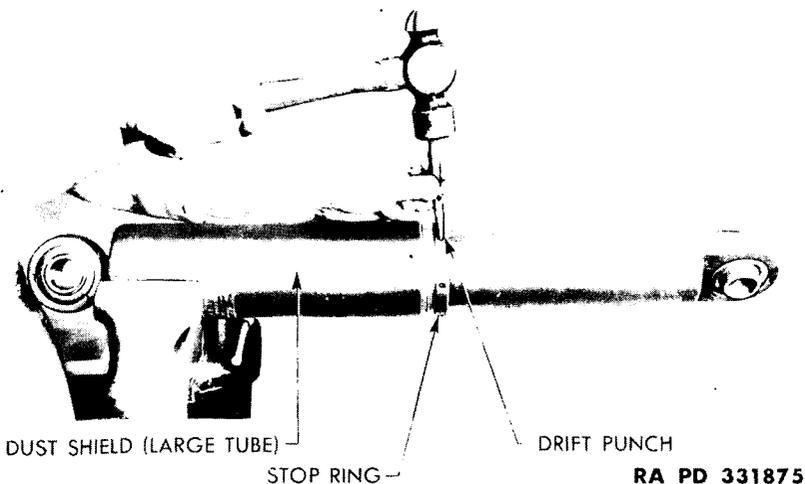
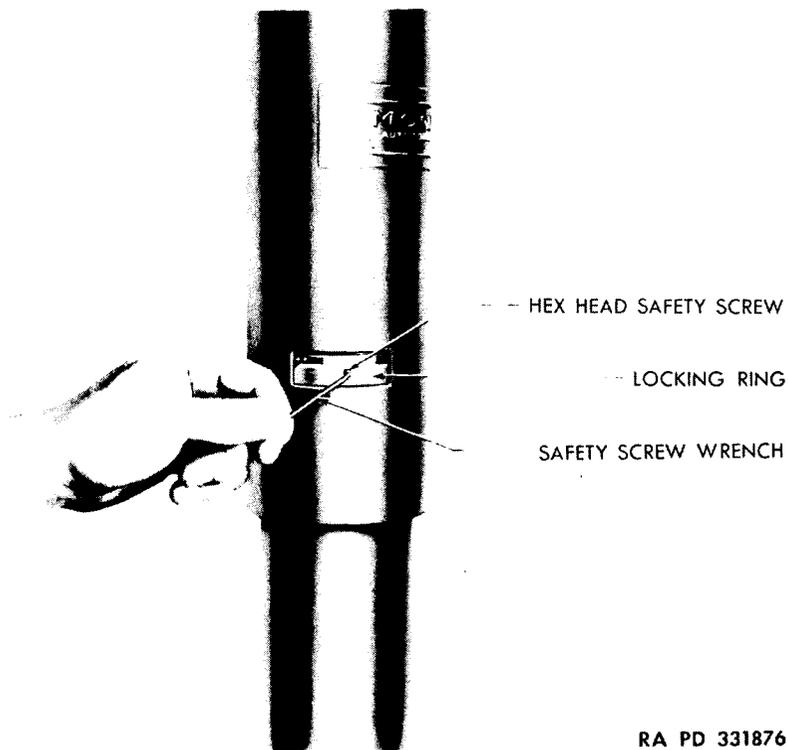

Figure 25. Removing shock absorber stop ring.
Figure 26. Removing hex head safety screw from locking ring.
(1) *Remove piston and cylinder assembly.* Clean the shock absorber thoroughly before disassembly. Bend the metal tabs away from the windows in the dirt shield, and extend the shock absorber to its fullest extent. If tabs break off, they should be retained, and tack welded in place at time of reassembly. Lay the shock absorber horizontally in a vise, clamping on the outside of the large tube. Unscrew the stop ring, which is engaged in the end of the large tube (fig. 25), using either spanner wrench or drift to loosen. Release the shock absorber from the vise and remount, standing it vertically, and clamping it on the lower forging. Remove the hex head safety screw that holds the locking ring in the reserve tube (fig. 26), then unscrew the locking ring with spanner wrench (41-W-3255-427) (fig. 27). Raise the locking ring, the gasket support washer, and the reserve tube